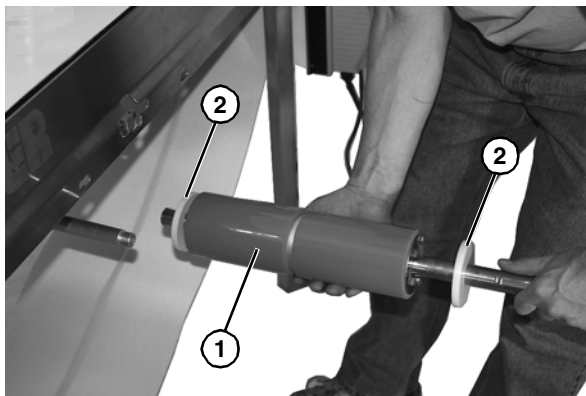

Figure 96
13. Slide drive pulley (Figure 96, item 1) out of remaining attached side plate.
When removing components, be sure to note the orientation of spacer plate (Figure 96, item 2) on each end of conveyor.